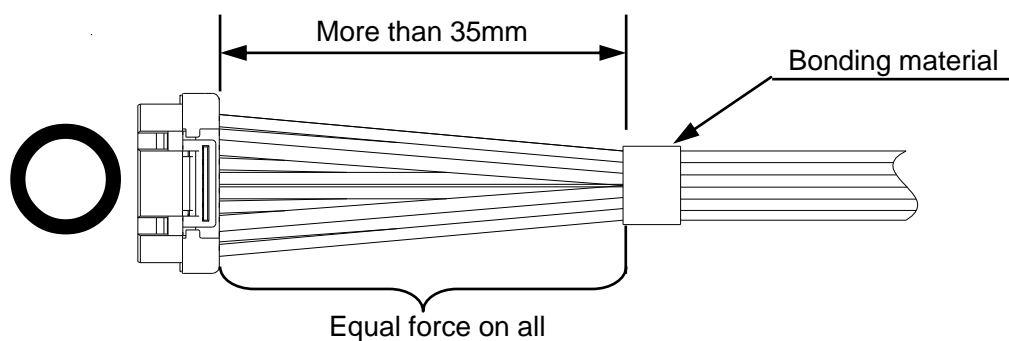

Fig.5. Correct bonding condition
- ① When bonding the connector, please bond at a further position than 35mm so the force on the wire would be equal at all points. (See Figure 5)